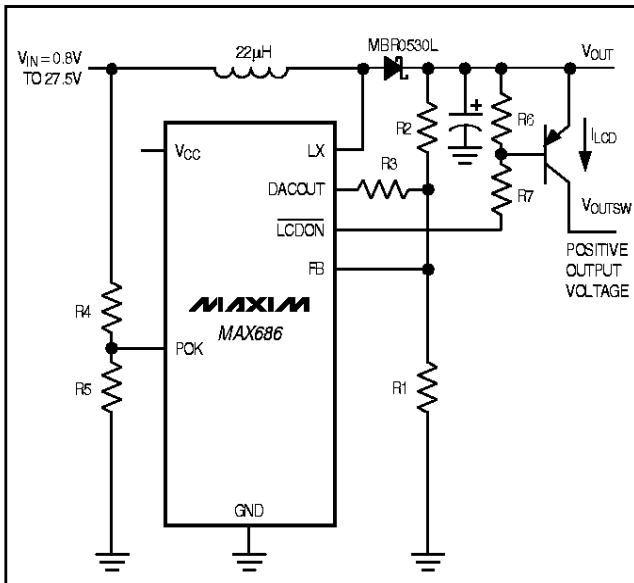

Figure 6. Using the POK for Input Voltage Monitoring
POK is the input to the power-OK comparator. The comparator drives an internal N-channel MOSFET. The MOSFET's open-drain output,  $\overline{\text{LCDON}}$ , can drive an external PNP transistor or P-channel MOSFET, switching a positive  $V_{\text{OUT}}$  to the LCD (Figures 6 and 7). When the voltage at POK exceeds 1.125V (power OK),  $\overline{\text{LCDON}}$  goes low, turning on the external PNP transistor. When the voltage at POK drops below 1.125V (power not OK), the external PNP transistor turns off, cutting off power to the LCD display. This feature ensures that the LCD display is not damaged due to improper voltage levels. During shutdown or undervoltage lockout,  $\overline{\text{LCDON}}$  is high impedance.
When the voltage at POK is greater than 1.125V (typical), the open-drain LCDON output pulls low. LCDON can withstand up to 27.5V to control an external PNP transistor to switch on the MAX686's positive output (Figures 6 and 7). A PFET can also be used, but a resistor-divider must be used in conjunction with it, so that the PFET does not exceed its  $V_{GS}$  rating. Three useful applications of this feature are as follows:
- An input-sensing cutoff for positive outputs. Connect POK to a voltage divider to sense the input voltage. The output switches on only when the input reaches the set level (Figure 6).
For input voltage sensing, a resistor-divider ( $R_4$ - $R_5$ , Figure 6) from  $V_{IN}$  to POK controls the open-drain output LCDON, which pulls low when  $V_{POK} > 1.125V$ . Choose  $R_5 = 100k\Omega$ . For example, if the minimum battery voltage is 5.3V, then determine  $R_4$  as follows: